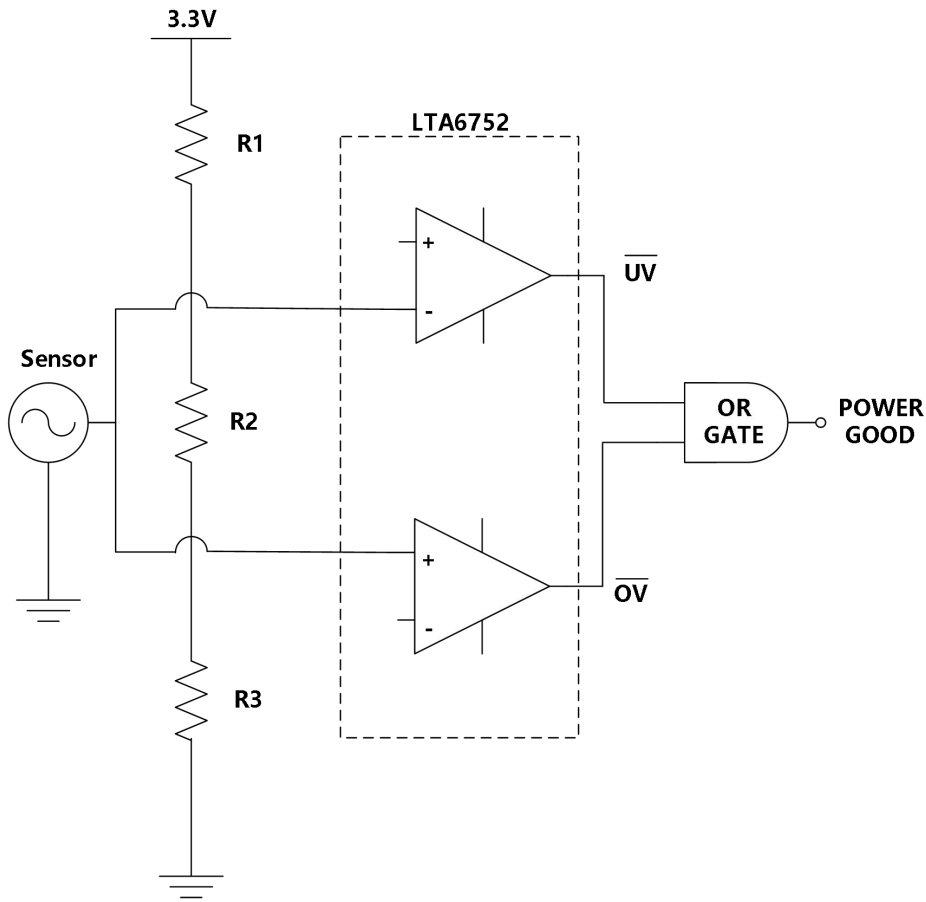

Figure 22: Window Comparator
Window Comparators are commonly used to detect undervoltage (UV) and overvoltage (OV) conditions. Figure 22 shows a simple window comparator circuit.
Configure the circuit as shown in Figure 22. Connect $V_{\text{S+}}$ to a 3.3 V power supply and $V_{\text{S-}}$ to ground. Make R1, R2 and R3 each 10MΩ resistors. These three resistors are used to create the positive and negative thresholds for the window comparator ($V_{\text{TH+}}$ and $V_{\text{TH-}}$). With each resistor being equal, $V_{\text{TH+}}$ is 2.2 V and $V_{\text{TH-}}$ is 1.1 V. Large resistor values such as 10MΩ are used to minimize power consumption. The sensor output voltage is applied to the inverting and non-inverting inputs of the 2-channel LTA675x's. The respective comparator outputs will be low when the sensor is less than 1.1 V or greater than 2.2 V. V_{OUT} will be high when the sensor is in the range of 1.1 V to 2.2 V. See the application curve in Figure 23.